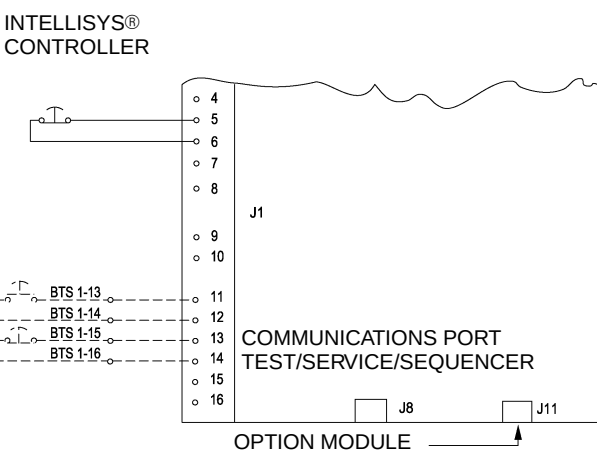

FIGURE 2.0-4 OPTION MODULE
2. Insert the module into the option module socket labeled J11 on the right side of the Intellisys® controller enclosure per figure 2.0-4.